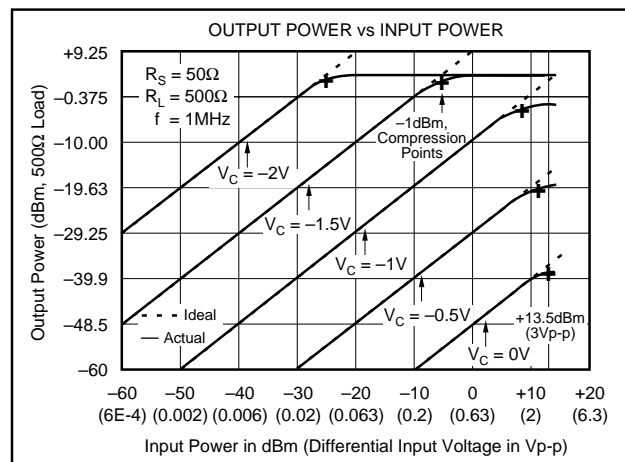

FIGURE 2. Input and Output Range.
NOTES: (1) See Input/Output Range discussion in the Applications Information section (Figure 2). (2) Gain is laser trimmed and tested at control voltages of 0V to -2V in 200mV steps; $V_{IN} = 1Vp-p$ for $V_C > -1V$ gains less than 0dB; $V_{OUT} = 1V$ for $V_C < -1V$. (3) Output offset change from offset at $V_C = 0V$. (4) Gain = +40dB; Input step of 2V to 2mV; time required for output to return from saturation to linear operation. (5) $V_{IN} = 7mVp-p$, $V_{OUT} = 700mVp-p$ (250mVrms); Output Power = -10dBm/line, equal amplitude tones of 5MHz $\pm 500Hz$, $V_C = -2V$. See Typical Performance Curves. (6) With $R_S = 0\Omega$, and noise bandwidth of 1MHz. $IDR = 20 \log(V_{ORMS}/(e_{ORMS} \cdot \sqrt{BW}))$ where V_{ORMS} is rms output voltage, e_{ORMS} is output noise spectral density, and BW is noise bandwidth.
The VCA610's 77dB gain range allows the user to handle an exceptionally wide range of input signal levels. If the unit's input and output voltage range specifications are exceeded, however, signal distortion and amplifier overloading will occur. The VCA610's maximum input and output voltage range is best illustrated in Figure 2.
Figure 2 plots output power versus input power for five voltage gains spaced at 19.25dB intervals. The 1dBm compression points occur where the actual output power (solid lines) deviates by $-1dBm$ from the ideal output power (dashed lines). Compression is produced by different mechanisms depending on the selected gain. For example, at $G = -38.5dB$ ($V_C = 0$), 1dBm compression occurs when the input signal approaches approximately 3Vp-p (13.5dBm for $R_S = 50\Omega$). Input overloading is the compression mechanism for all gains from $-38.5dB$ to about $-5dB$. For gains between $-5dB$ and $+5dB$, the compression is due to internal gain stage overloading. Compression above a gain of $+5dB$ occurs when the output signal becomes distorted as internal gain stages become overdriven. At $G = 0dB$, 1dBm compression occurs when the input exceeds approximately 1.5Vp-p (7.5dBm). At gains greater than about 5dB, the compression mechanism is due to output stage overloading.
As shown in Figure 2, the onset of overload occurs whenever the actual output begins to deviate from the ideal expected output. If possible, the user should operate the VCA610 within the linear regions shown in order to minimize signal distortion and overload delay time. However, instances of amplifier overload are actually quite common in Automatic Gain Control (AGC) circuits which involve the application of variable gain to signals of varying levels. The VCA610's design incorporates circuitry which allows it to recover from most overload conditions in 200ns or less. Overload recovery time is defined as the time required for the output to return from overload to linear operation following the removal of either an input or gain-control overdrive signal.